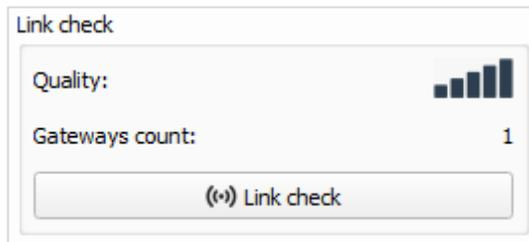

Figure 16 – "Link check" field
3.4.2.7 «Link check» button (not displayed in the "Simple" mode) – when pressed, the device sends a special signal to the LoRaWAN network, in response to which the network informs it about the number of gateways that received this signal and the signal quality (fig. 16). This button only works while the device is connecting to the network.